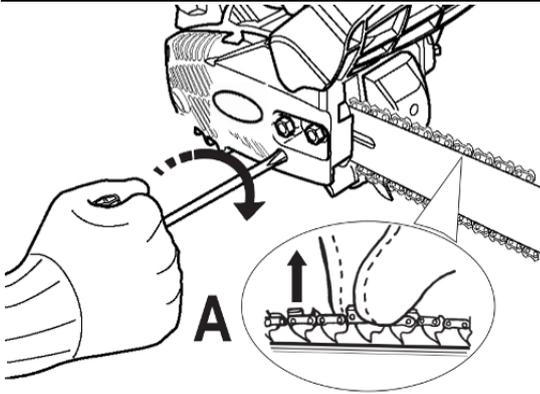

Fig.13
11) Turn the chain tension adjustment screw clockwise to tighten the saw chain. (fig.13). A correctly tensioned chain allows the chain to be lifted (with 2 fingers) to make sure a full guide tooth is visible (fig.13 item A).